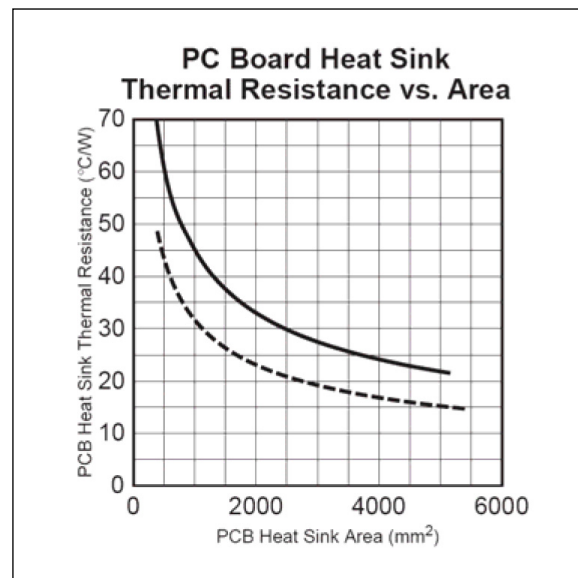

FIGURE 5-3: Electrical Circuit.
- RθCA = 53°C/W, read from Figure 5-3.